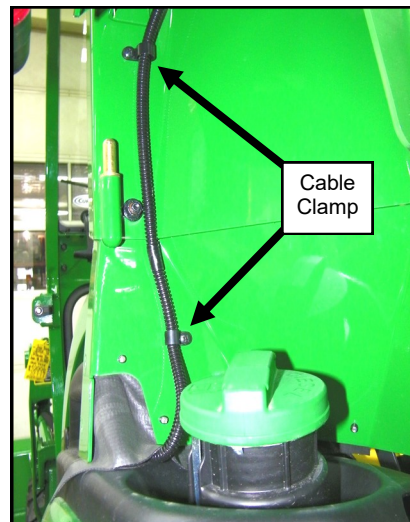

Fig. 17.5 (Secure Fender Light Wires)
17.5 Plug the light extension harness into the light. Secure the harness to the back of the rear leg with plastic P-clamps, screw heads inside with nuts outside. See figure 17.5.